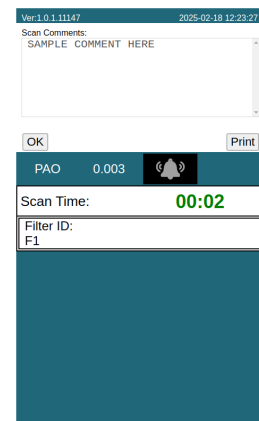

Figure 33. Return to Main screen or re-print scan
Step 4. Once the printout is complete, the user will have the option to press "OK" to proceed to the Main screen or "Print" to re-print the scan (Figure 33)